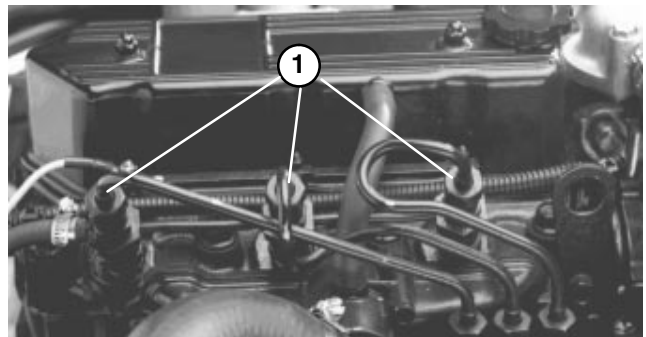

Figure 45
BLEEDING AIR FROM INJECTORS (Fig. 45)
2. Loosen the pipe connection to the No. 1 nozzle and holder assembly (Fig. 45).